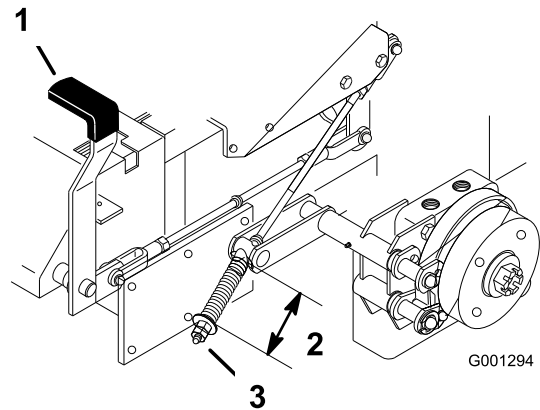

Figure 69
2. Measure the length of the spring. Measurement should be 64 mm (2-1/2 inch) between the washers (Figure 69).
3. If adjustment is necessary, release the parking brake, loosen the jam nut below the spring, and adjust the nut directly below the spring (Figure 69). Turn the nut until the correct measurement is obtained. Turn the nut clockwise to shorten the spring length and turn it counter-clockwise to lengthen the spring.